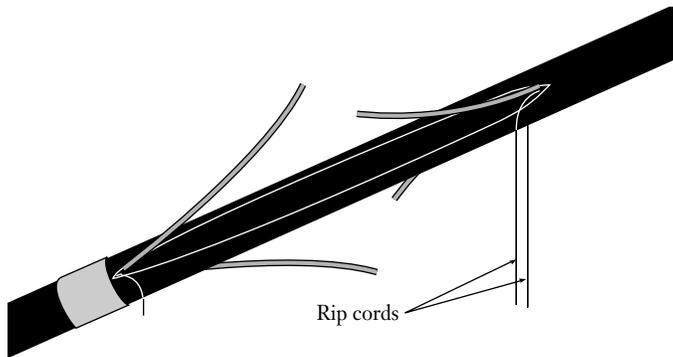

Figure 29
7.8 Locate the rip cords under the steel rods. Cut the outer rip cords near the tape mark (Figure 29).